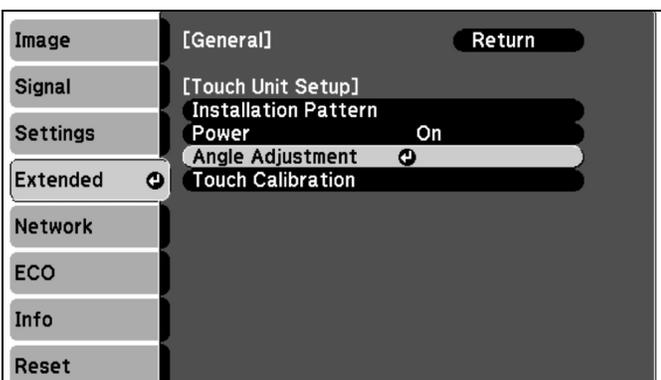

Figure 35
4. Select **Angle Adjustment**. (See Figure 35)